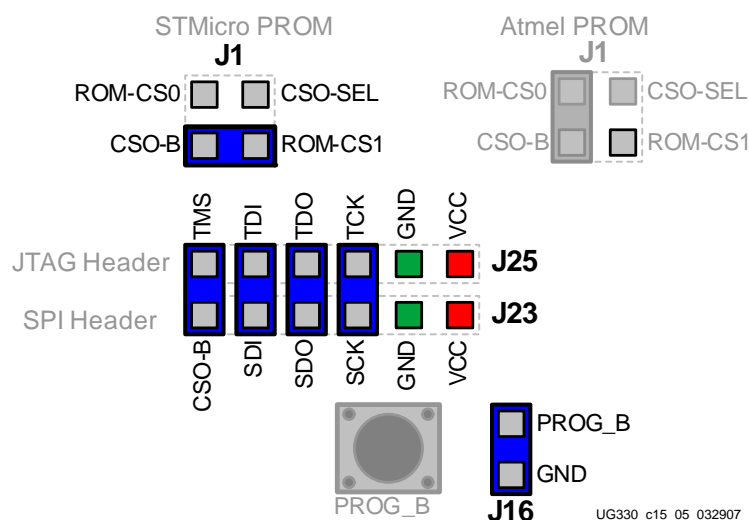

Figure 12-4: Jumper Settings for Direct SPI Flash Programming
3. Locate the J1, J23, and J25 jumpers in the upper right corner of the board, using Figure 12-1 as a guide. Figure 12-4 also provides a reference diagram.
4. Insert a jumper in jumper block J1, as shown in Figure 12-4. The figure shows the setting to program the STMicro M25P16 PROM. Alternatively, set the jumper to program the Atmel AT45DB161D DataFlash PROM.
5. Insert four jumpers between jumper blocks J25 and J23, as shown in Figure 12-4. These jumpers connect the embedded USB JTAG programmer on the J25 jumper pins to the SPI PROM via the J23 jumper pins.
8. For direct programming, the FPGA's PROG_B pin must be held Low. Insert a jumper in jumper J16, as shown in Figure 12-4. This holds all the FPGA's I/O in three-state to allow the JTAG programmer full access to the SPI PROM pins.
2. Insert a jumper in jumper block J1, as shown in Figure 12-4. The figure shows the setting to program the STMicro M25P16 PROM. Alternatively, set the jumper to program the Atmel AT45DB161D DataFlash PROM.